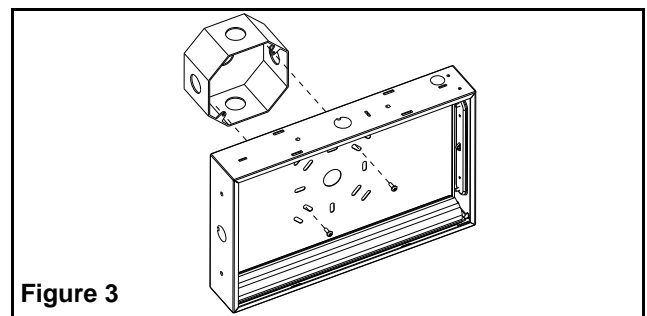

Figure 3
- c. Mount the unit securely to the junction box using the junction box screws (see Figure 3).